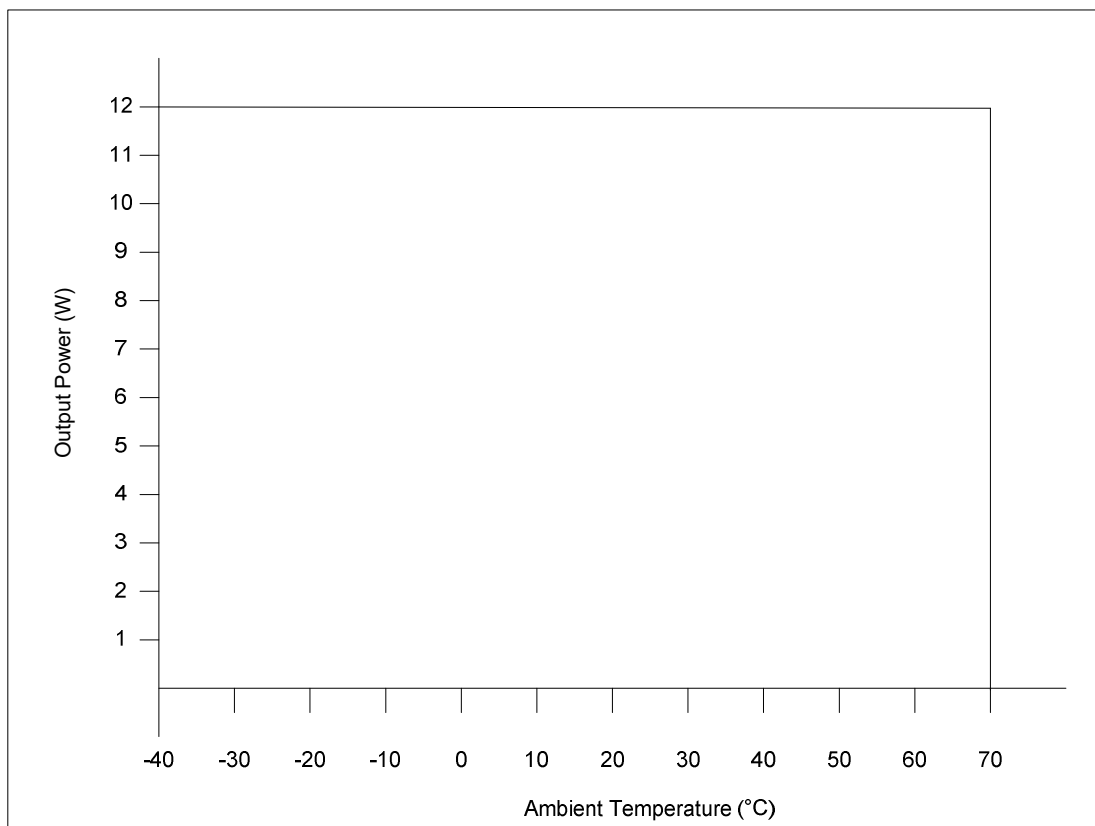
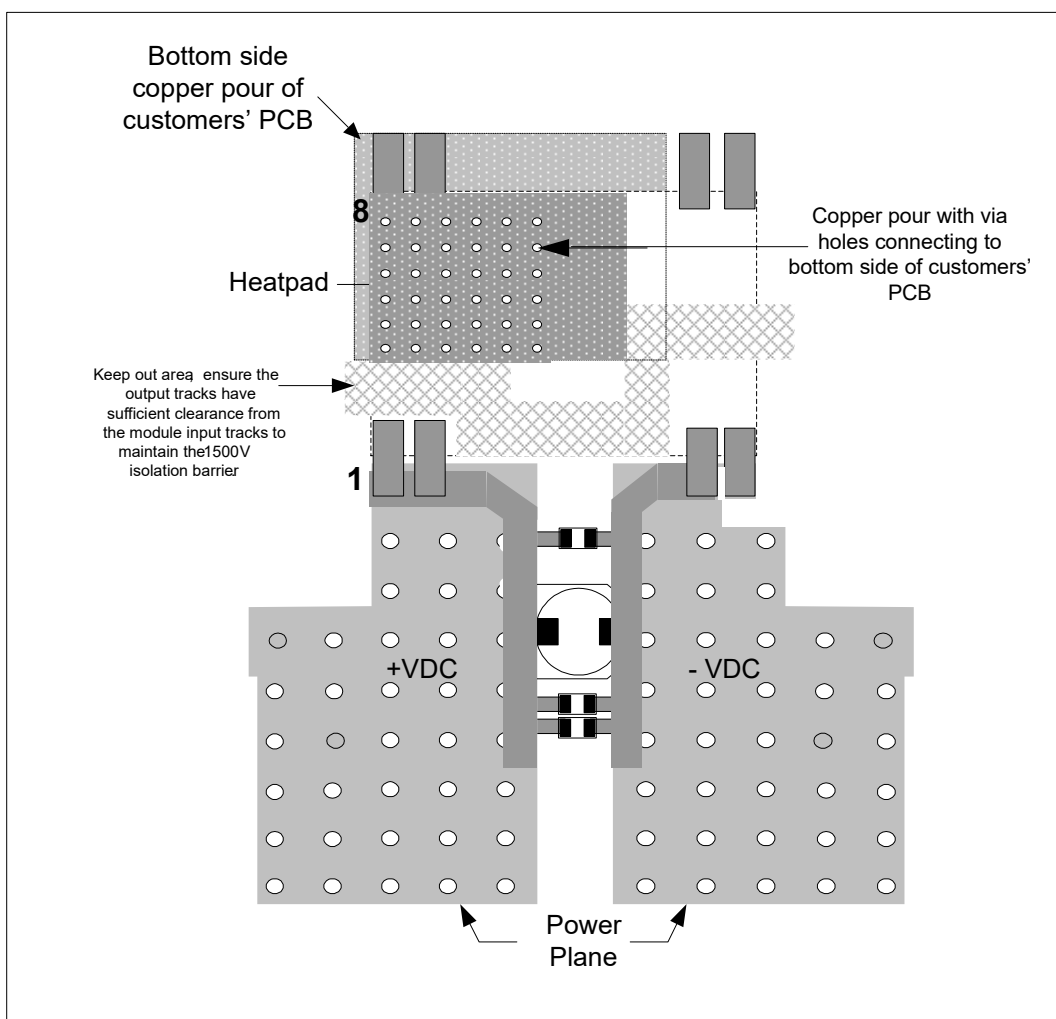

Figure 8: Ag9912M Operating Profile
Figure 9: Ag9912M Thermal Relief
To meet the safety isolation requirements of IEEE802.3af section 33.4.1 a Powered Device (PD) must pass the electrical strength test of IEC 60950 sub clause 6.2. This calls for either a) 1500Vac test or b) 1500Vdc impulse test. The Ag9912M is specified to meet the 1500Vdc impulse test. It is also important that the tracks on either side of the isolation barrier have at least a 3mm clearance, see Figures 9 & 10 for more information.
The Ag9912M has a maximum ambient operating temperature of 70°C see Figure 8. These results were performed in an environment chamber - Associated Environmental System SD-302, without any heat-sinking. The performance of the Ag9912M can be improved by forcing the airflow directly over the part or by using thermal relief pads (see Figure 9 and application note on thermal considerations for more information).
One simple method for drawing some of the heat away from the Ag9912M is shown in Figure 9. Power planes connected to the +VDC and -VDC pins of the Ag9912M can be used to draw heat away from the DC/DC converter via the output pins.
These power planes must be on the outer layers of the PCB and the best results are achieved by having power planes on both sides of the main board with multiple through-hole connections (as shown in Figure 9).